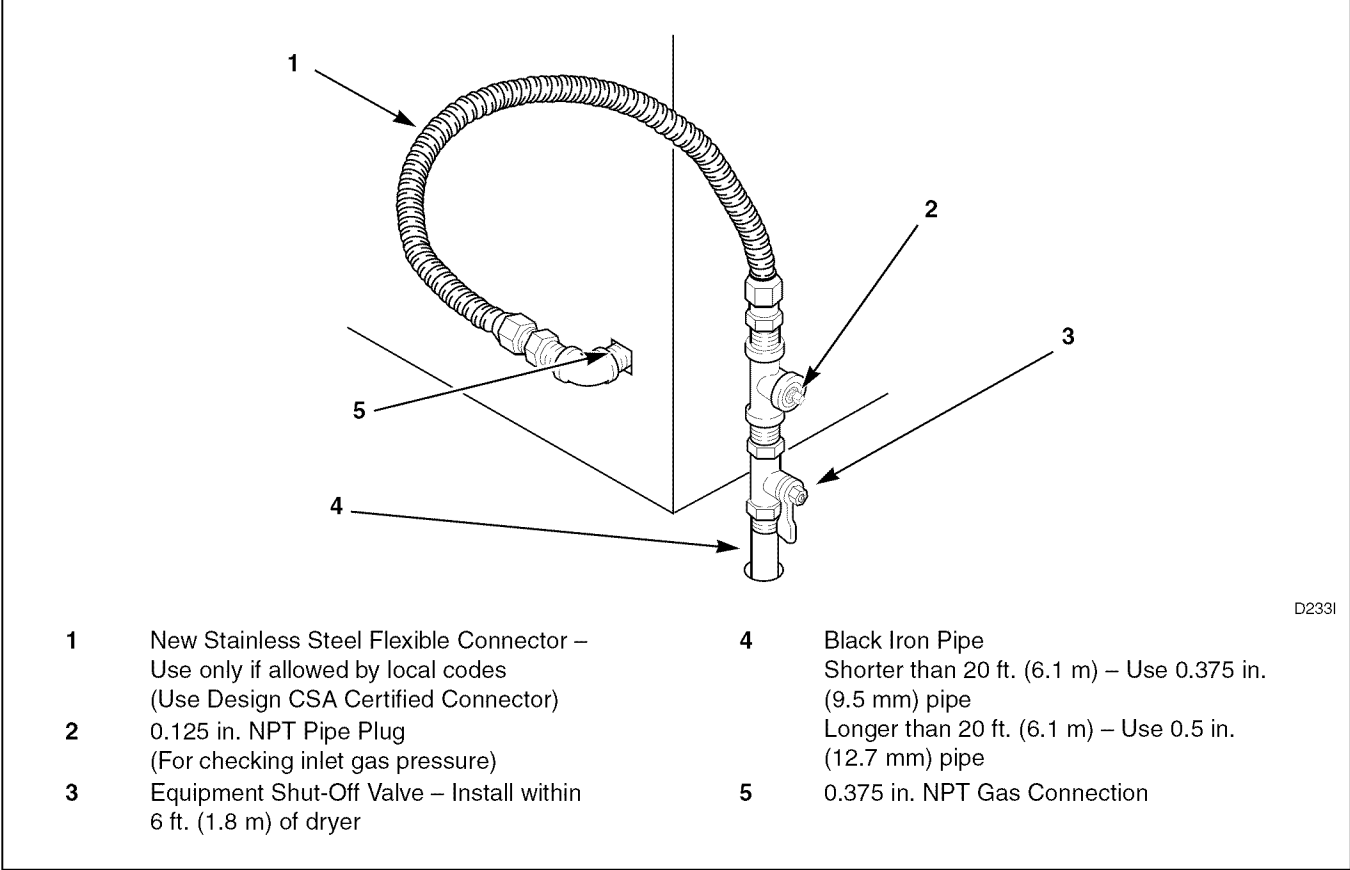

Figure 18
**NOTE:** When connecting to a gas line, an equipment shut-off valve must be installed within 6 feet (1.8 m) of the dryer. An 0.125 inch NPT pipe plug must be installed as shown. Refer to *Figure 18*.